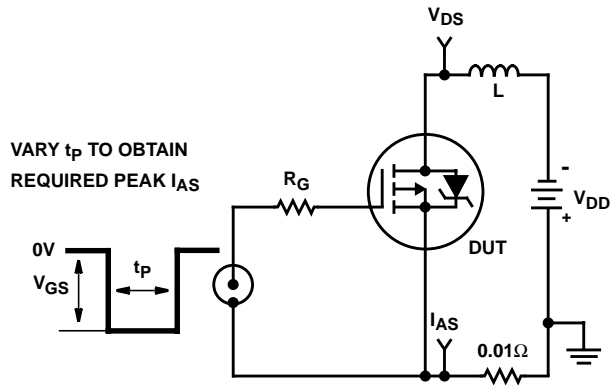

FIGURE 15. UNCLAMPED ENERGY TEST CIRCUIT
- $V_{DD} = 25\text{V}$ , starting  $T_J = 25^{\circ}\text{C}$ ,  $L = 4\text{mH}$ ,  $R_G = 25\Omega$ , peak  $I_{AS} = 19\text{A}$ . (Figures 15, 16).